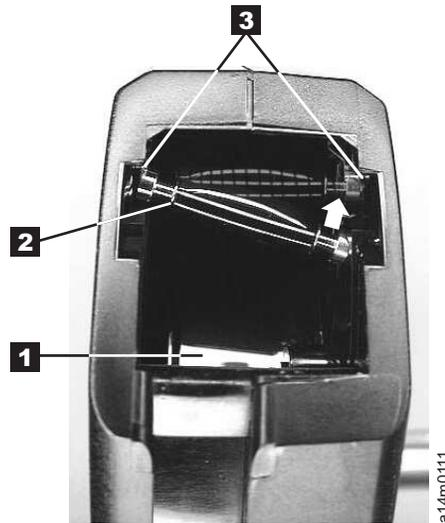

Figure 66. Placing the dislodged leader pin into the correct position. The cartridge door is open, showing the leader pin out of position.
1. Slide open the cartridge door (see **1** in Figure 66 on page 284) and locate the leader pin **2** (you may need to shake the cartridge gently to roll the pin toward the door).